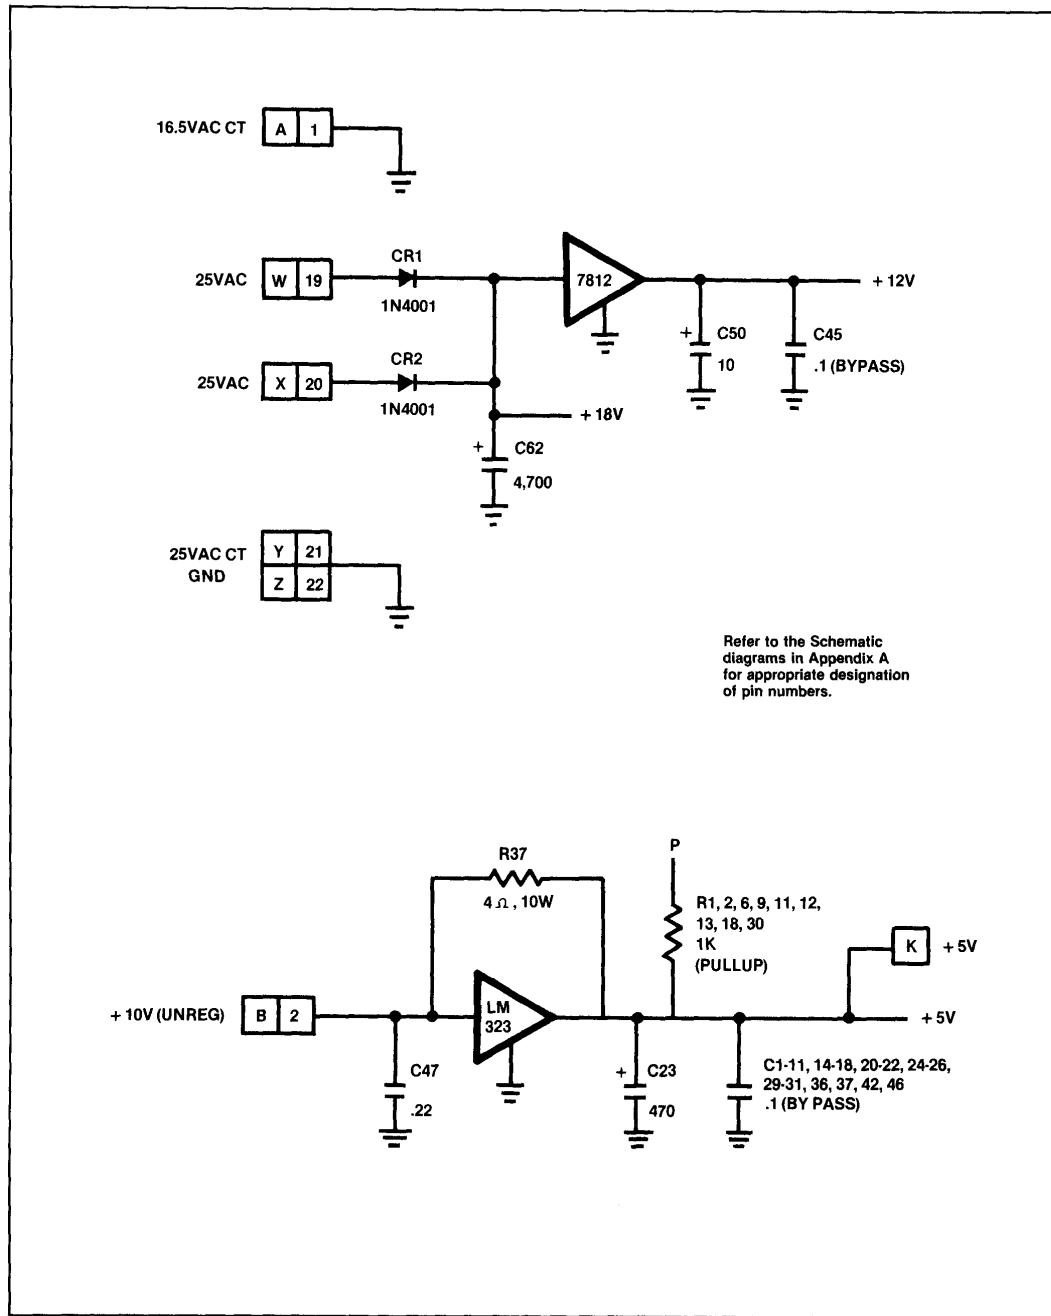

Figure 3-3 On-Board Power Supply Schematic Diagram
B. POWER SUPPLY (See Figure 3-3)